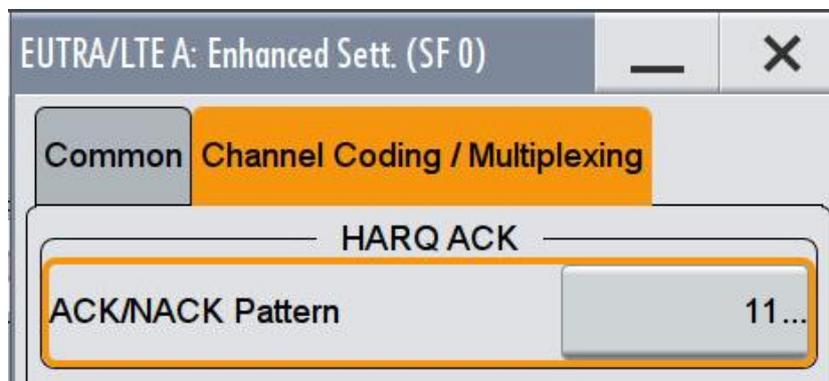

Fig. 3-117: Set two bits ACK pattern to '11'
9. Set the **ACK/NACK Pattern** (two bits) to '11' (Fig. 3-117)